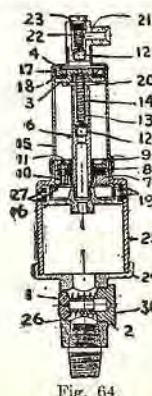

Fig. 64
The Brown impulse air pump: This pump (Fig. 64) has the appearance of a compound pump, because of the large and small cylinders, but they are built in this form to make it possible to pump the high pressures necessary for large tires, and at the same time not have any too good a compression in the engine cylinder. The lower piston, with its large area, receives its impulse from the compression in the engine cylinder, and transmits it to the upper piston through the medium of the hollow piston rod, to which both pump pistons are attached.
Fig. 64. The impulse pump, sometimes termed the spark-plug pump, because it is screwed into the spark-plug hole and operates by means of the compression of the engine cylinder. (1) Inlet valve disk; (2) Inlet valve body; (3) Upper piston; (4) Upper piston nut; (6) Piston rod; (7) Stuffing box; (8) Rod packing; (9) Rod packing nut; (12) Ball check valves; (13) Upper piston pin; (14) Check valve spring; (15) Upper cylinder shell; (16) Lower piston; (18) Piston cup leather; (19) Piston rings; (21) Outlet valve; (22) Outlet valve spring; (23) Outlet valve cap; (24) Cylinder base; (25) Lower cylinder shell; (26) Inlet valve seat.